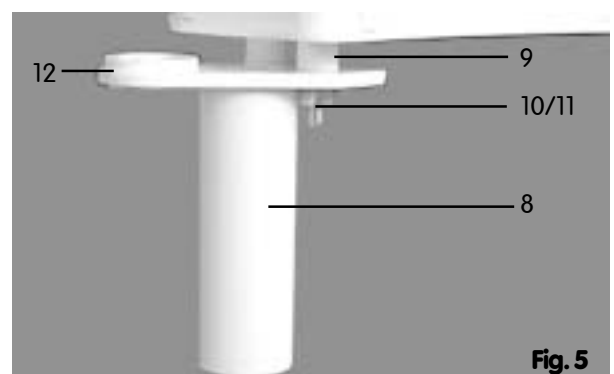

Fig. 5
From accessory pack 2, take 2 distance collars (9), two M10 nuts (10) and 2 lock-washers (11), and assemble as shown in Fig. 5.